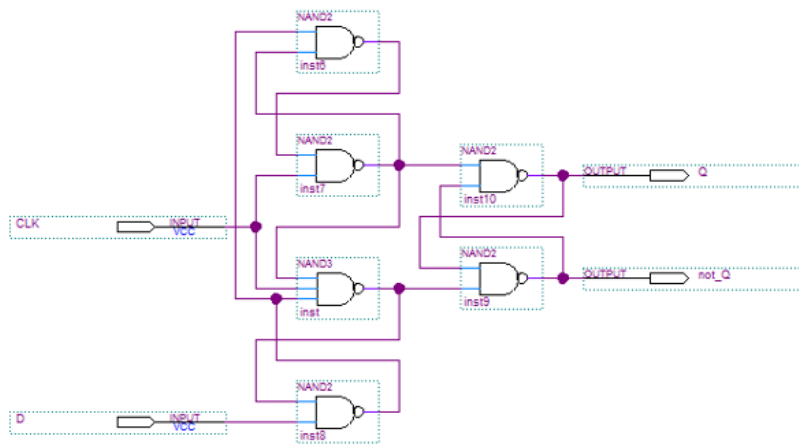

Figure 5.5.4: D flip-flop
1. Add a block diagram sheet to the project and draw the block diagram of the D flip-flop from Figure 5.5.4.